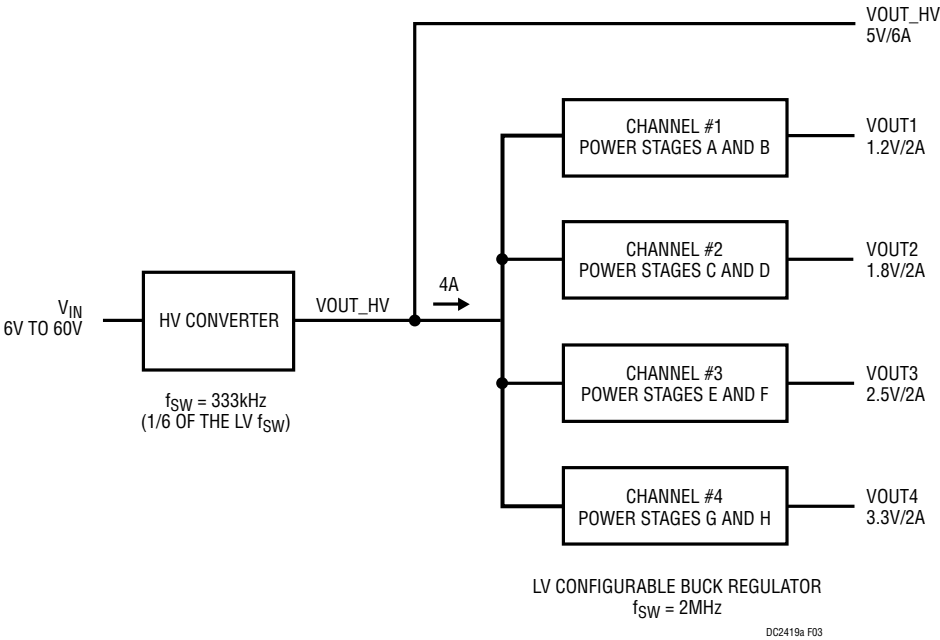

Figure 3. DC2419A Block Diagram
Demonstration circuit 2419A features the LTC®3372 in a multi-output step-down converter. The controller portion of the LTC3372 drives a high output voltage (HV) buck converter which has an input voltage range of 6V to 60V. Its output voltage (V_{OUT_HV}) is nominally 5V but can be configured for either 5V or 3.3V with the V_{OUTPRG} pin. V_{OUT_HV} supplies power to the configurable buck regulator. This regulator provides four low voltage (LV) outputs labelled V_{OUT1-4} . These outputs are 1.2V/2A, 1.8V/2A, 2.5V/2A and 3.3V/2A respectively. When V_{OUT_HV} is configured for 5V, it can supply 6A to the external loads with full load on V_{OUT1-4} . With no load on V_{OUT1-4} , V_{OUT_HV} can supply 10A to the external loads. See Figure 3 for the Block Diagram.